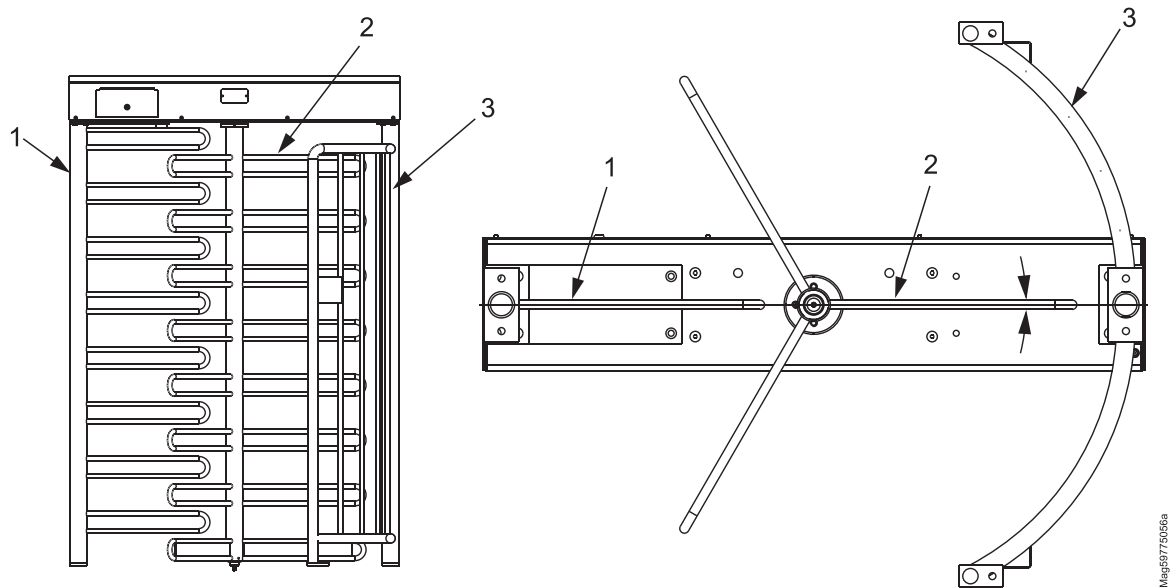

Figure 31 Setting the full height turnstile to the "blocked" position
1. Set the center column with lock comb to the "blocked" position (see Page 39, Figure 31).